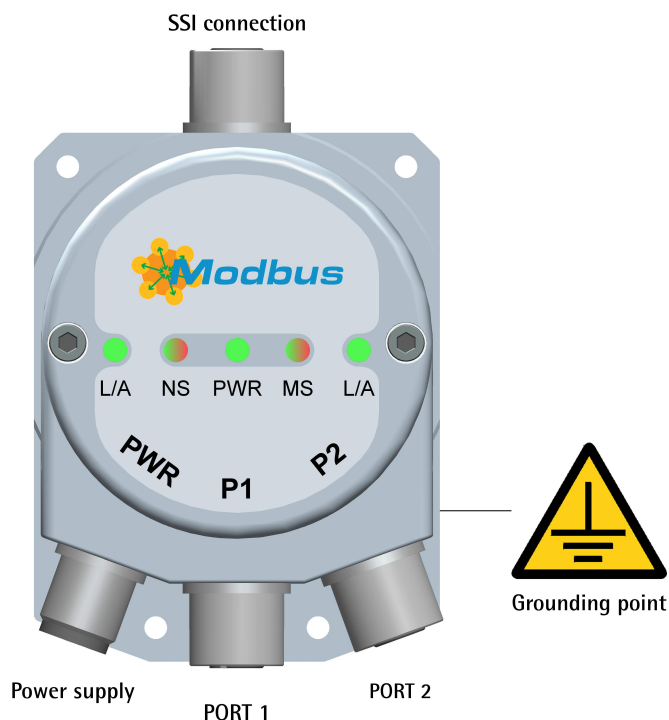

Figure 4 - Connectors and diagnostic LEDs
4.2 SSI connection (Figure 4)
4.3 Power supply and MODBUS TCP/IP interface connectors (Figure 4)
4.3.1 PWR Power supply connector (Figure 4)
4.3.2 P1 Port 1 and P2 Port 2 connectors (Figure 4)
device. We suggest using the ground point provided in the cap (see Figure 4, use 1 TCEI M3 x 6 cylindrical head screw with two tooth lock washers).
4.10 Diagnostic LEDs (Figure 4)
Five LEDs located in the cap of the converter (see the Figure 4) are meant to show visually the operating or fault status of the device and the MODBUS interface. The meaning of each LED is explained in the following tables.